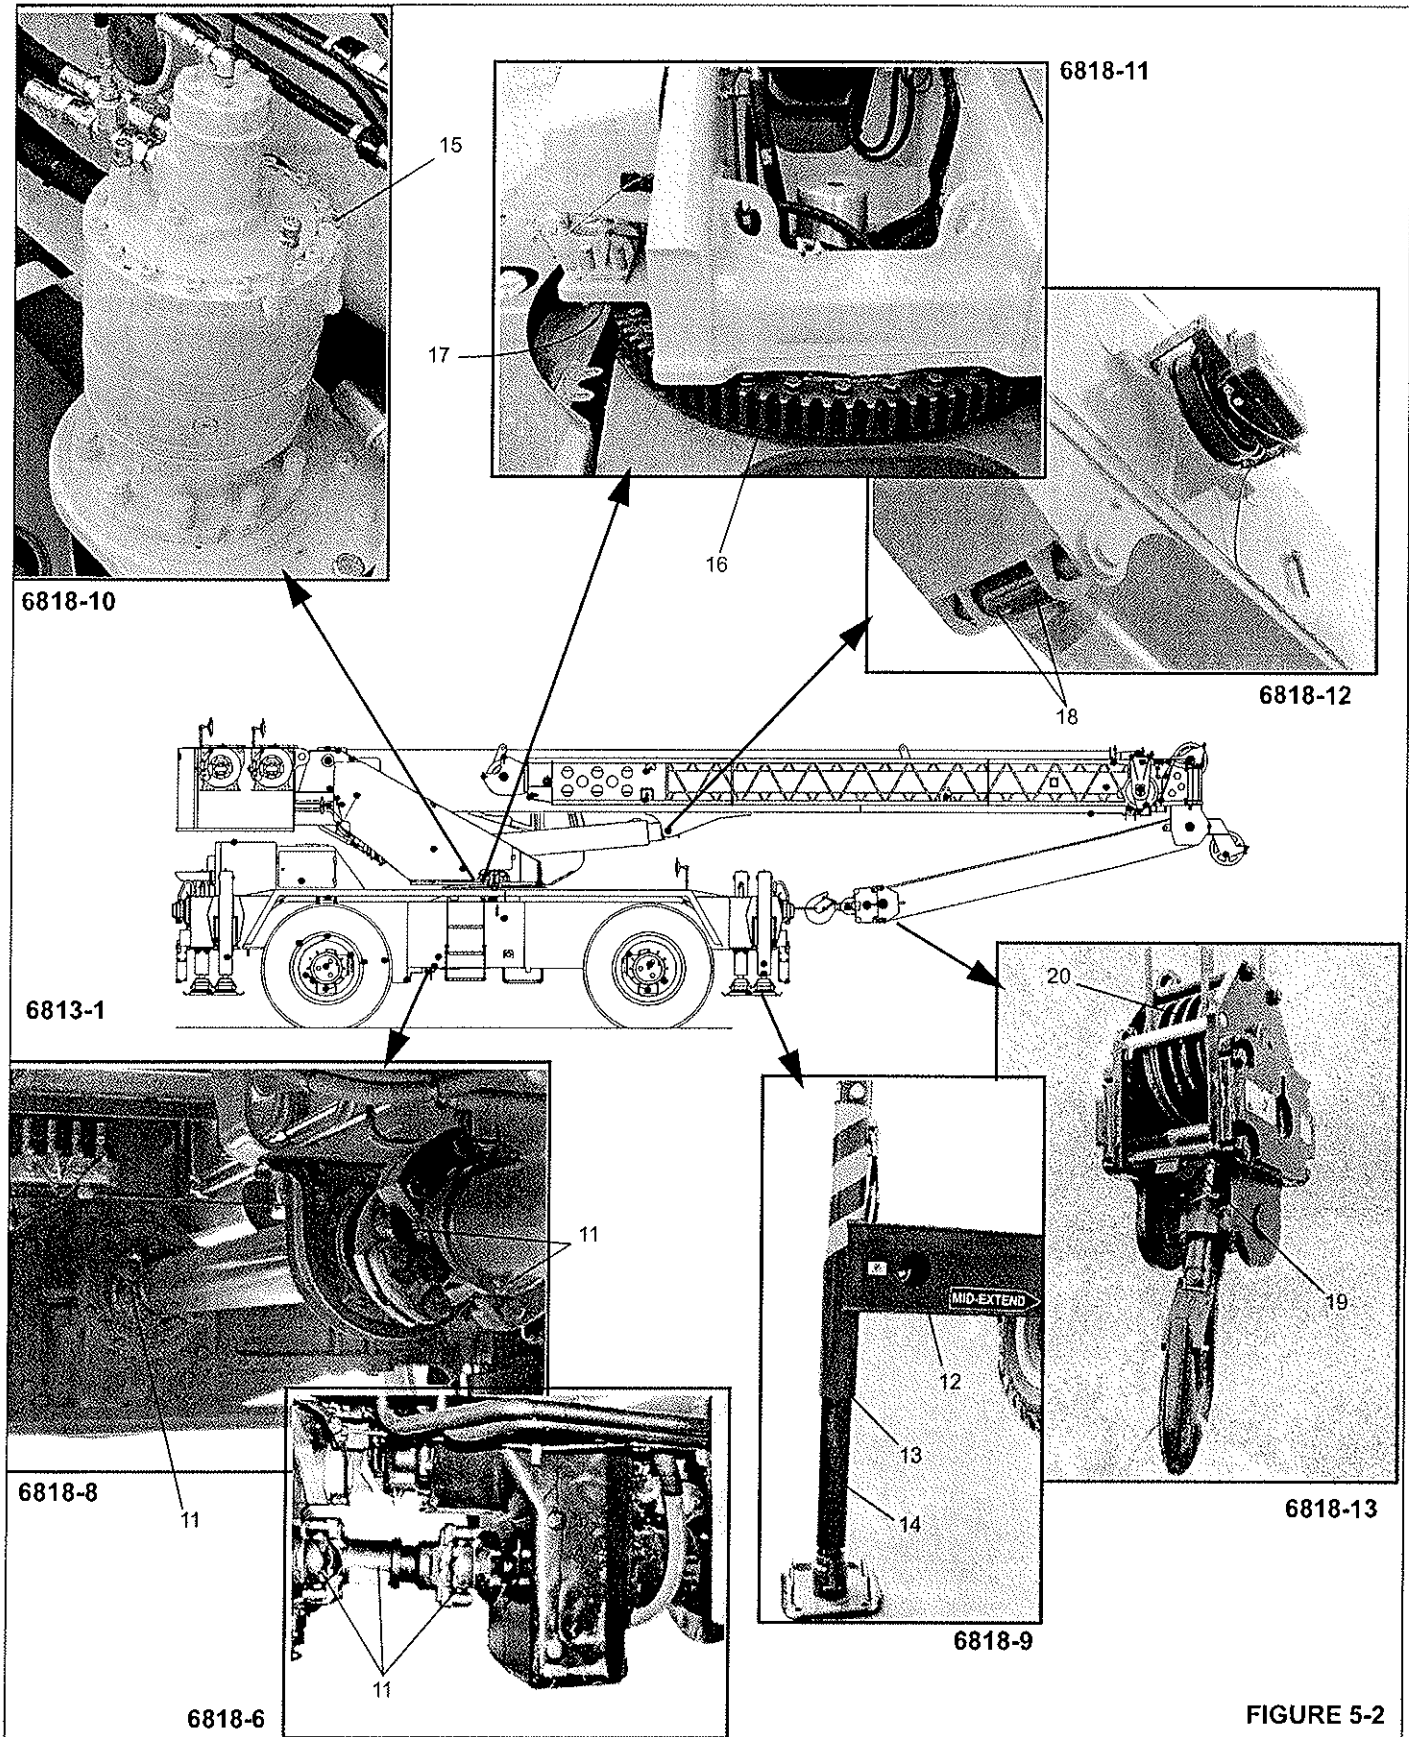

FIGURE 5-2
**11. Driveline - Slip and U-Joints (11). (Figure 5-2)**
**OUTRIGGER LUBRICATION****12. Outrigger Beams (12). (Figure 5-2)**
**13. Jack Cylinder Support Tubes (13). (Figure 5-2)**
**14. Jack Cylinder Barrels (14). (Figure 5-2)**
### 15. Turntable Gear Box (15). (Figure 5-2)
### 16. Turntable Gear and Drive Pinion (16). (Figure 5-2)
### 17. Turntable Bearing (17). (Figure 5-2)
### 18. Upper Lift Cylinder Pivot Pin (18). (Figure 5-2)
### 20. Hook Block Swivel Bearing (19). (Figure 5-2)